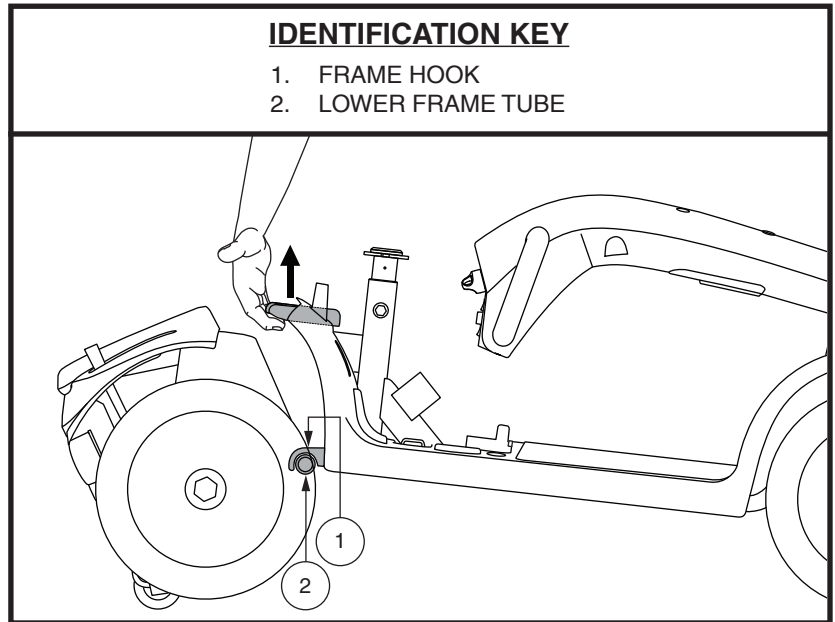

Figure 25. Frame Release Lever
3. Grasp and lift up on the frame release lever. See figure 25.
1. Position the front and rear sections of your scooter as shown in figure 25.